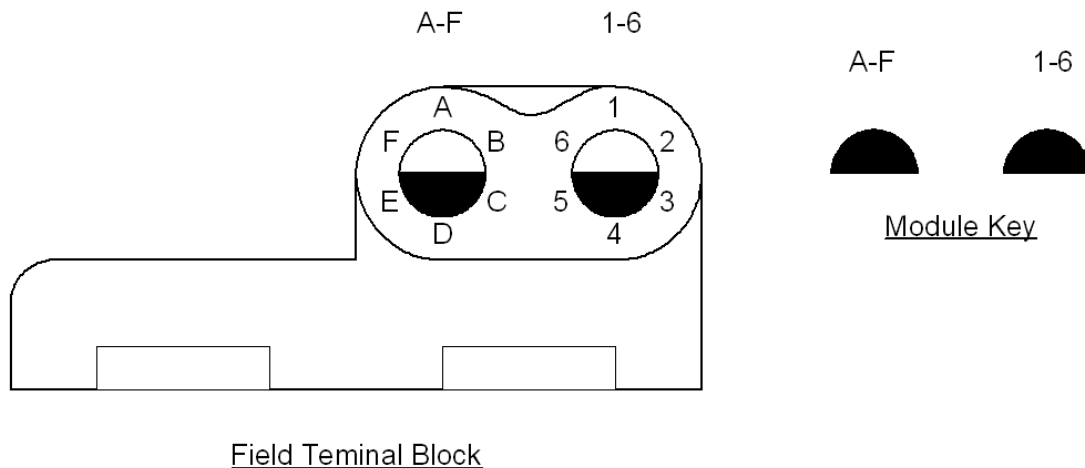

Figure 2
13. A rotary keying system ensures compatibility between I/O Modules and Terminal blocks after installation is complete (see figure 2 below). The exception: the SLS Terminal blocks do not have keys. They physically can only connect to the SLS 1508 controller.